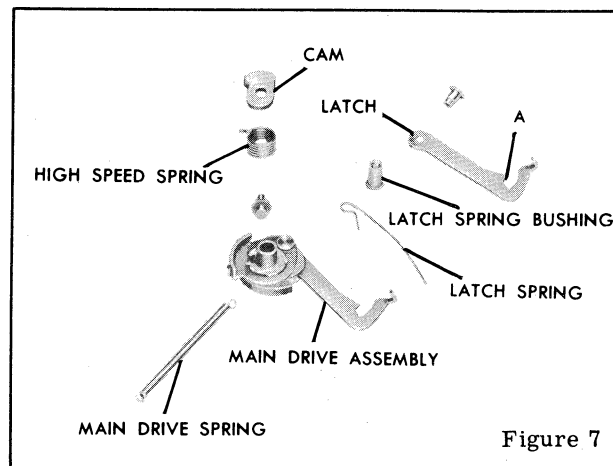

Figure 7
6. High speed spring CAM, figure 7, and the **HIGH SPEED SPRING**.
5. Unhook the MAIN DRIVE SPRING, figure 7, from the MAIN DRIVE SPRING STUD, figure 14.
3. Place the long end of the sector spring against the inner side of the blade controller LATCH SPRING BUSHING, figure 7.
5. Unhook the LATCH SPRING, figure 7, from the main drive LATCH.
1. Apply a thin film of grease (Texaco Unitemp-RCX169 Grease) in the slot on the main drive assembly where it engages the stop stud on the SETTING LEVER, figure 12; on the MAIN DRIVE STUD, figure 14; on the LATCH, figure 7, at the point of contact with the LATCH SPRING, and on the latch where it contacts the RETARDING SECTOR STUD, figure 14. This area of the latch should be burnished before applying the lubricant.
13. Blade controller LATCH SPRING BUSHING, figure 7, and the LATCH SPRING.